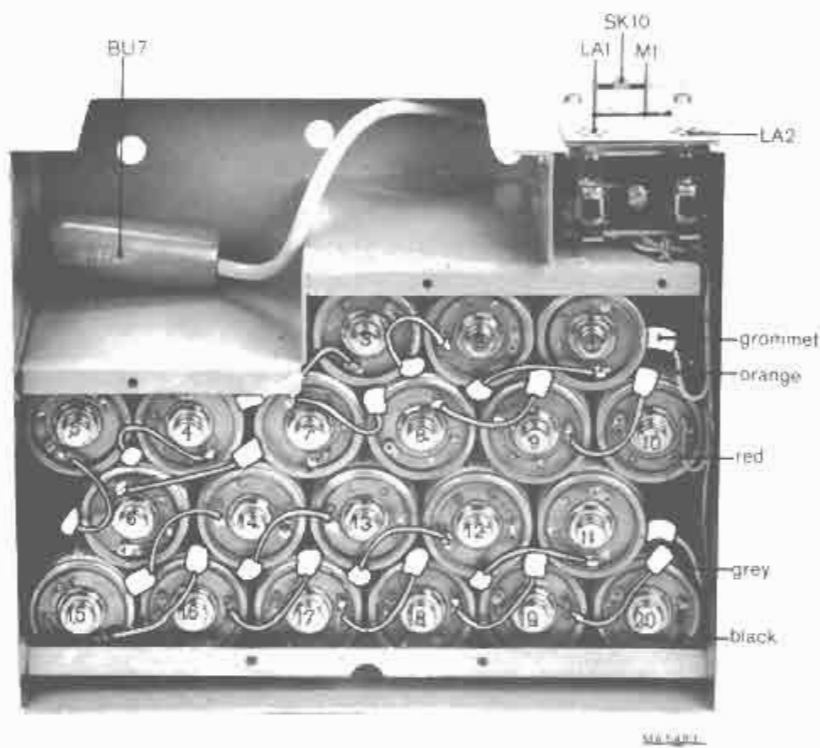

Fig. 16. View of opened battery case.
### 3. Operation (see Fig. 16)
- Fit the 20 batteries in the case in the way shown in Fig. 16.
- Interconnect the batteries exactly as indicated in Fig. 16.